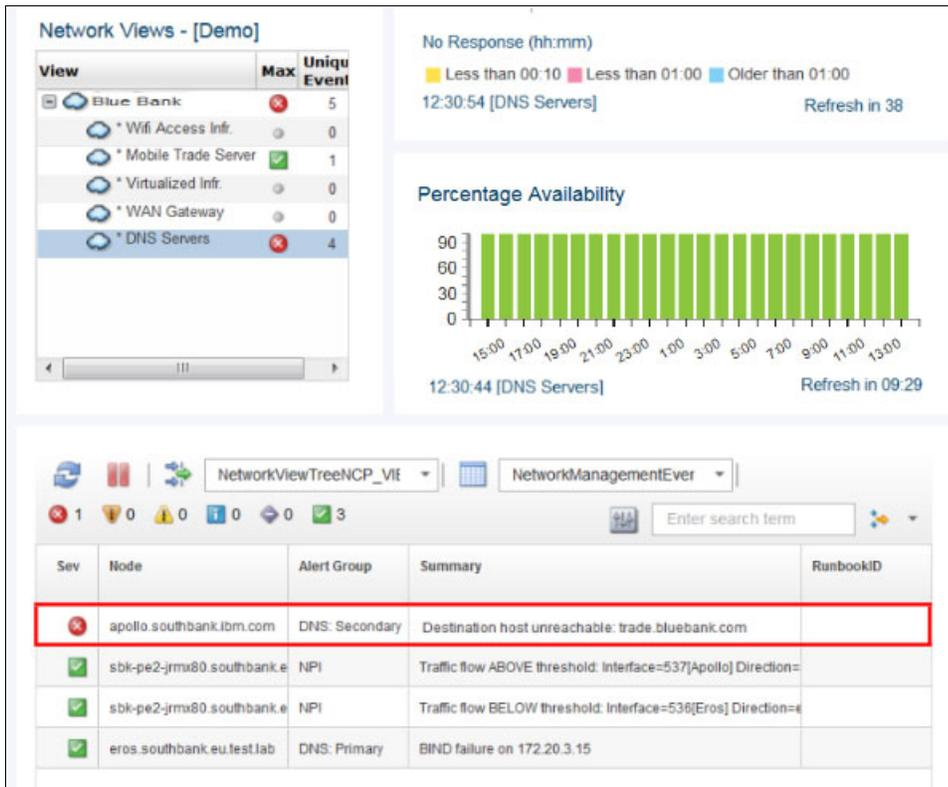

Figure 2-24 Secondary server cannot resolve the address of the Mobile Trade Server
- Annette observes that the Secondary DNS server cannot resolve the IP of trade.bluebank.com, as seen in Figure 2-24.